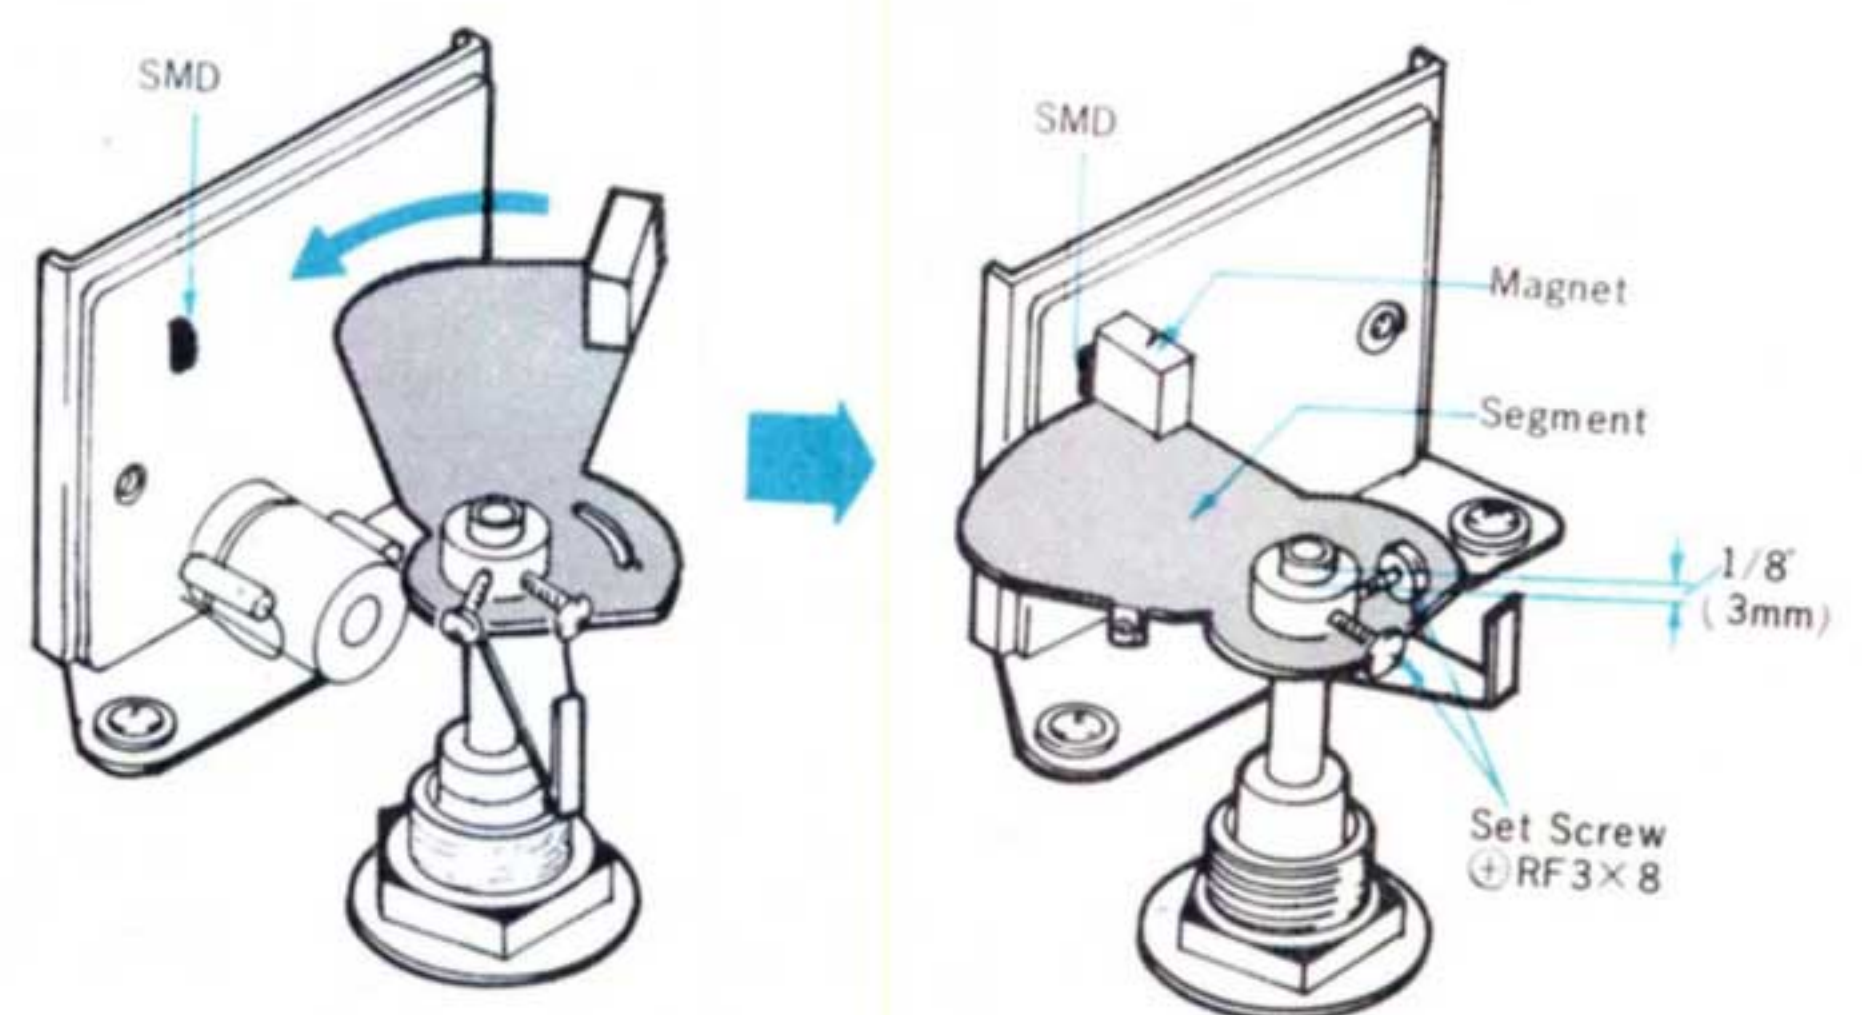

Fig. 3-7 Sensing Mechanism Adj.
2. Set the end of the bracket assembly shaft $1/8''$ (3mm) from the end (bottom) of the tone arm shaft. See Fig. 3-7
4. Adjust the horizontal position of the bracket assembly so that the permanent magnet aligns with the SMD when the stylus moves into the last groove of the record. See Fig. 3-7.